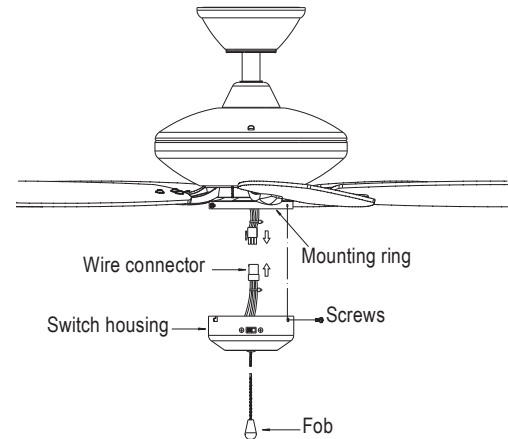

Fig. 15
Step 1. While holding the switch housing under your ceiling fan, push the square wire connectors together. One from the fan and one from the switch housing. (Fig. 15)
Step 2. Carefully push all the wires into the switch housing. Attach the switch housing to the mounting ring with the screws provided. Make sure each screw is tight. (Fig. 15)